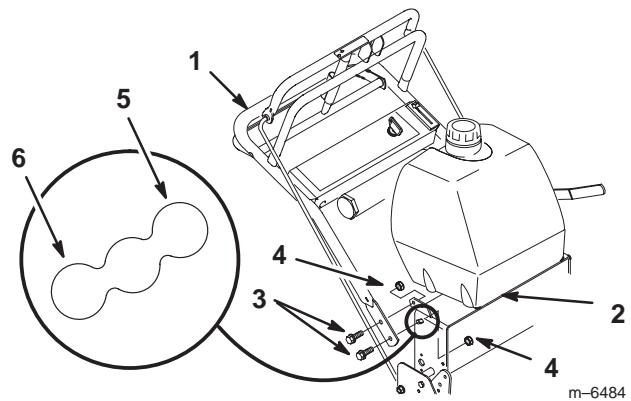

Figure 3
- Position handle outside frame and align upper handle mounting holes with desired mounting holes in rear frame. Select high, medium or low according to operators height (Fig. 3).
- Secure each side with 2 bolts (3/8 x 1 inch) and 2 locknuts (3/8 inch) (Fig. 3).